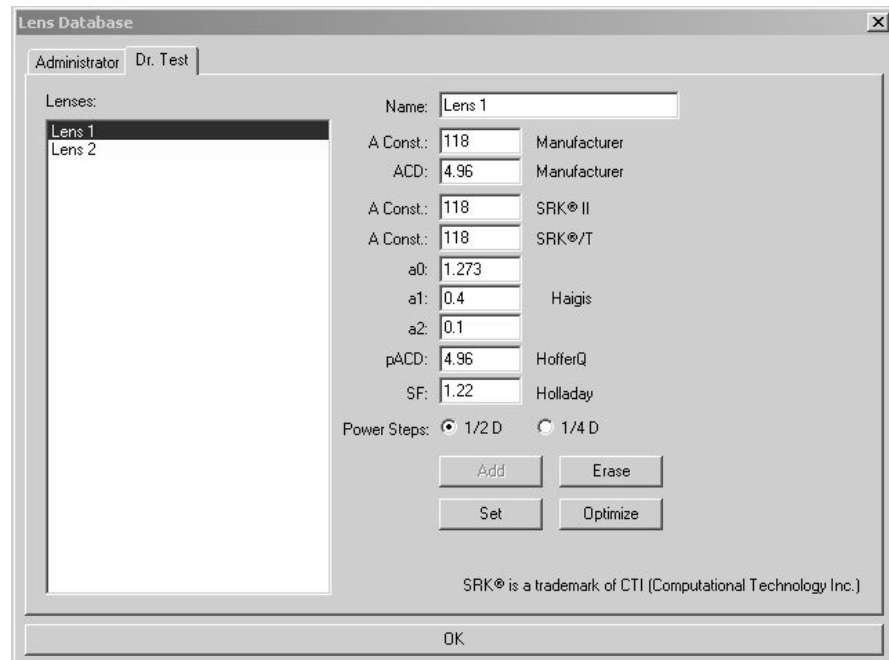

Fig. 54 Lens data in the **Lens Database** dialog box
- In the **Options** menu, open **Lens database**. Select the respective eye surgeon and confirm your choice with **OK** (Fig. 54).
- When all the desired data records have been loaded into the left-hand table, press **OK** to return to the optimisation box (Fig. 54).